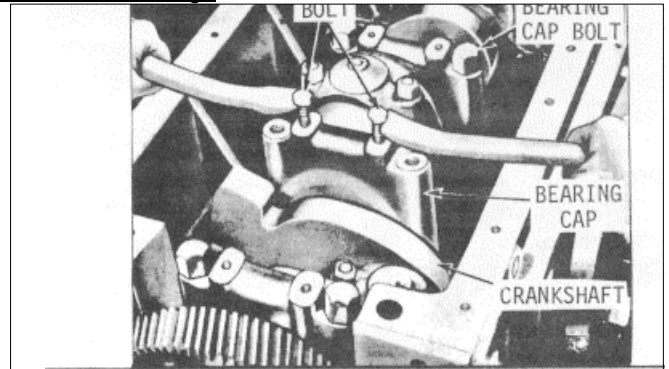

Fig. 2. Removing Main Bearing Cap
- (3) Remove one main bearing cap at a time (Fig. 2) and inspect the bearing shells as outlined under Inspection. Reinstall each bearing shell and bearing cap before removing another bearing cap: